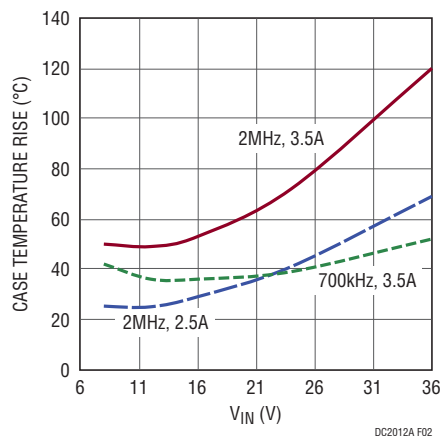

Figure 2. LT8610AB Case Temperature Rise. V_{OUT} = 5V, T_A = 25°C
Figure 2 shows the thermal performance of the circuit. When running at input voltage greater than 30V, 3.5A output current and 2MHz switching frequency, the temperature rise will be significant. Either reducing the input voltage, the output current or the switching frequency will bring the temperature down to acceptable level without external cooling.
* Refer to Figure 2 to determine the maximum input voltage. If IC temperature exceeds target, reduce input voltage, output current or switching frequency.